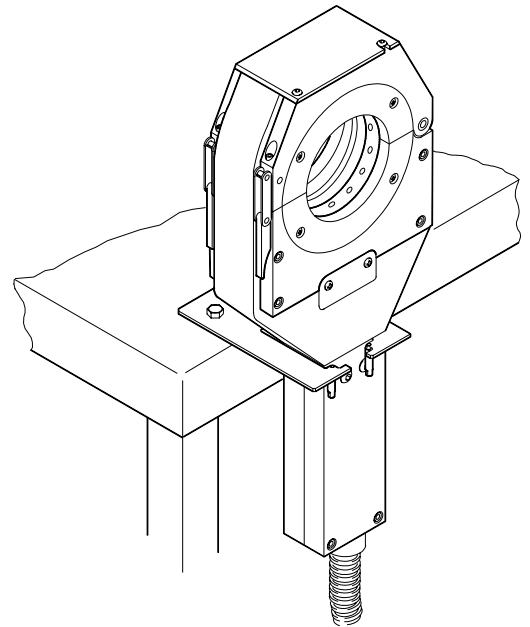

Figure 11 Mounting the Weld Head
2. Thread the power cord through the opening of the mounting bracket and seat the weld head in the position shown in Figure 11.